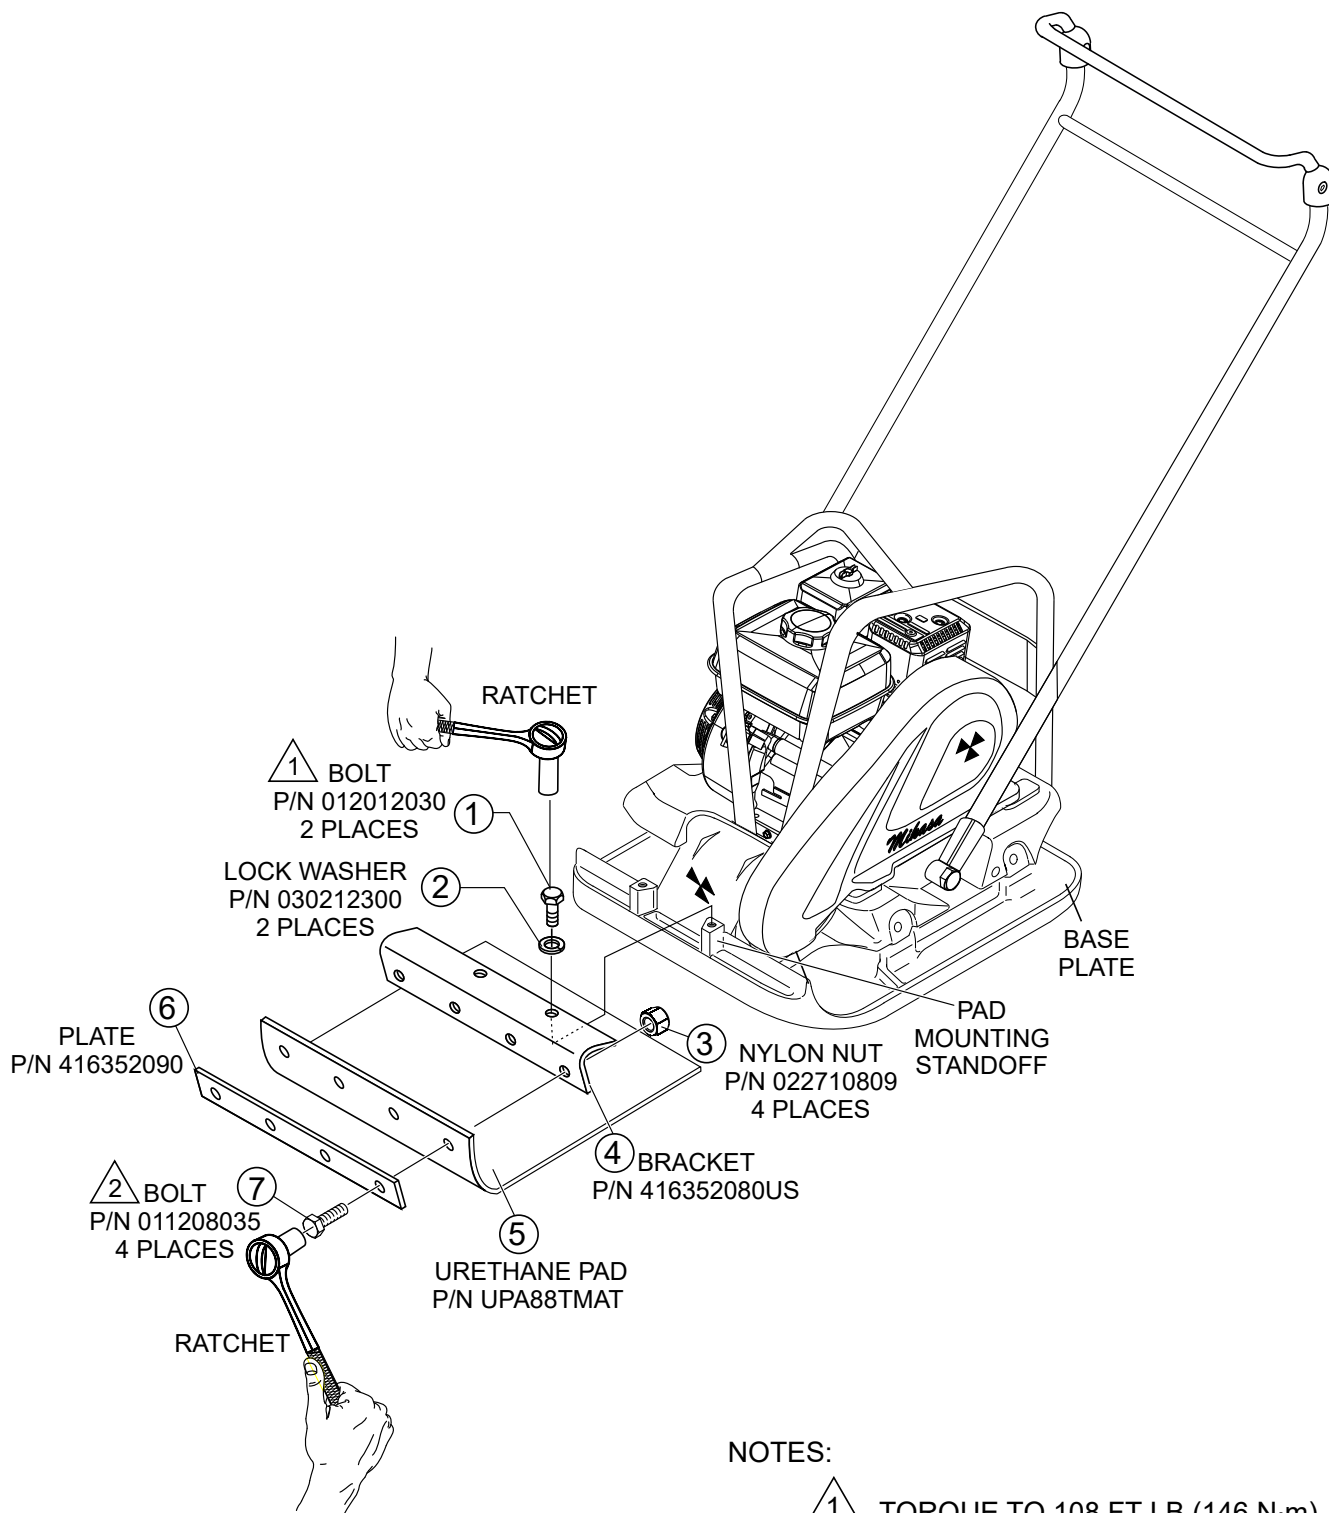

**Figure 2. Pad Assembly/Installation**
1. Align the four holes on the plate (item 6) with the four holes on the front of the urethane pad (item 5). Refer to Figure 2.
2. Next, insert the four 8x35 bolts (item 7) through the plate (item 6) and urethane pad (item 5) mounting holes.
3. Attach the plate and urethane pad (items 6 and 5) to the bracket (item 4) by inserting the four bolts sticking out from the plate/urethane pad into the plate mounting holes.
4. To finish securing the plate and urethane pad to the bracket, attach **four nylon nuts** (item 3) to the **four bolts** (item 7). Use a 3/8" ratchet and 13 mm socket and tighten the four 8x35 bolts (item 7) to 25 ft-lb (34 N·m).
7. Apply a small amount of Loctite 242 or equivalent to the two 12x30 (item 1) bolt threads that secure the assembled urethane pad to the base plate pad mounting standoffs.
8. Next, insert a 12x30 bolt (item 1) and lock washer (item 2) into each of the pad mounting standoffs